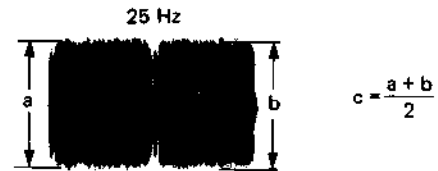

Fig. 5-30 SECAM recording color level
2. Adjust L502 so that the amplitude of line (n) violet and line (n + 1) violet are equal to each other at TP-502 as shown Fig. 5-30.
2. Measure the average of CH-1 output "a" and CH-2 output "b". See Fig. 5-30. Make a note of this as level "c".